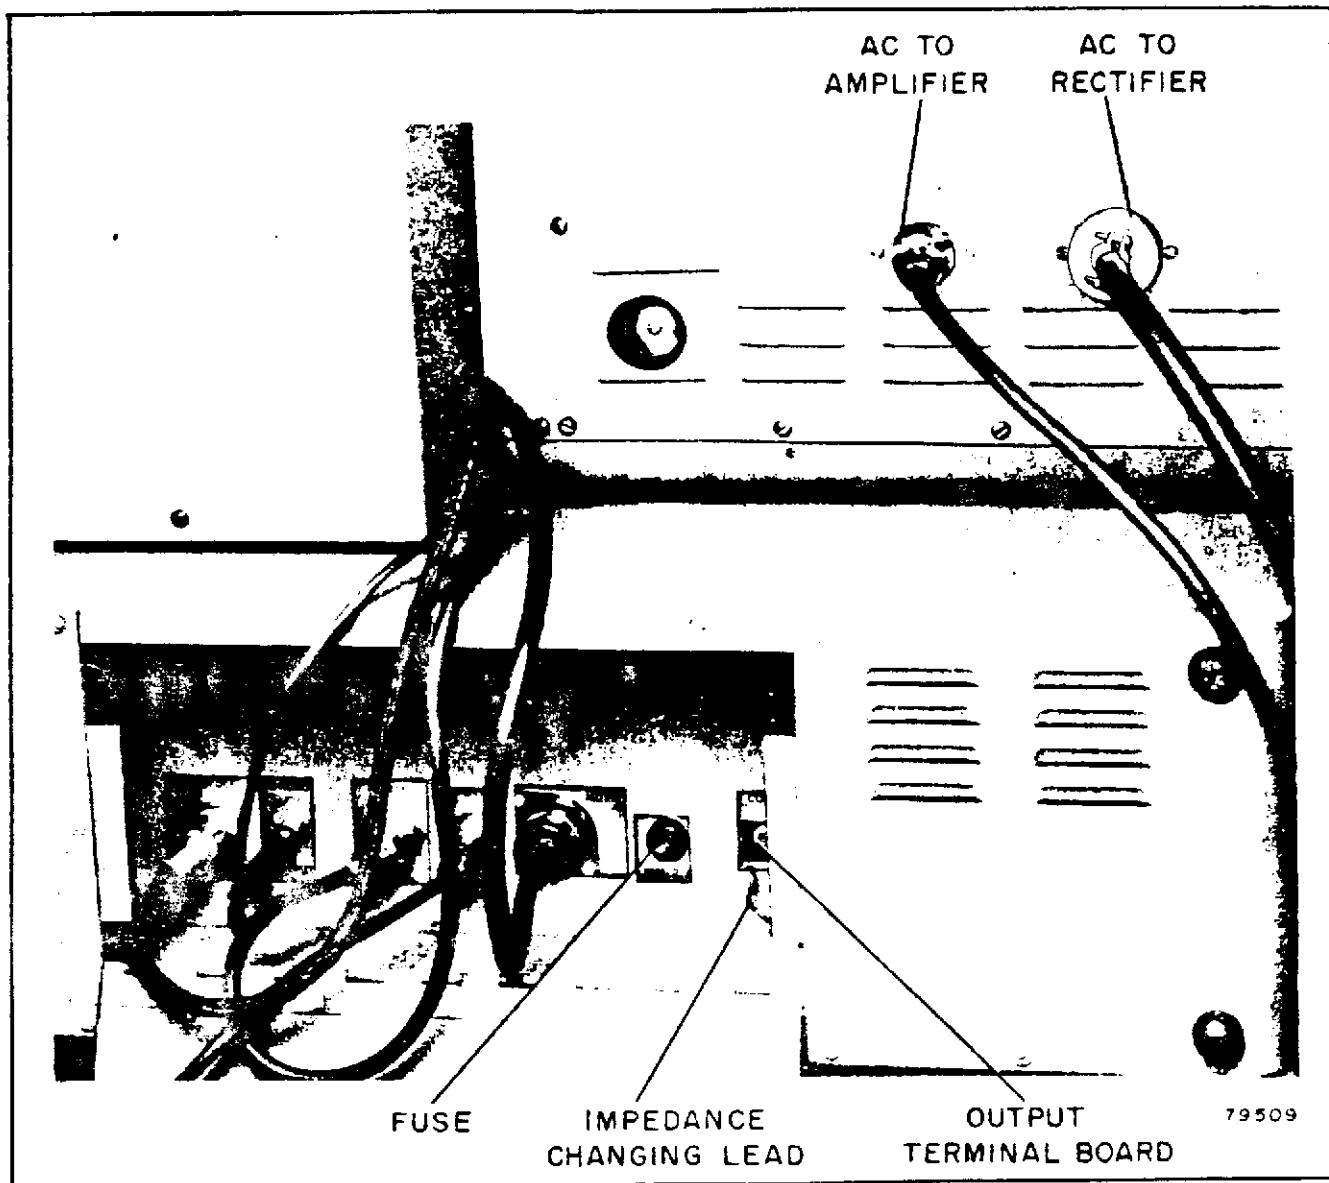
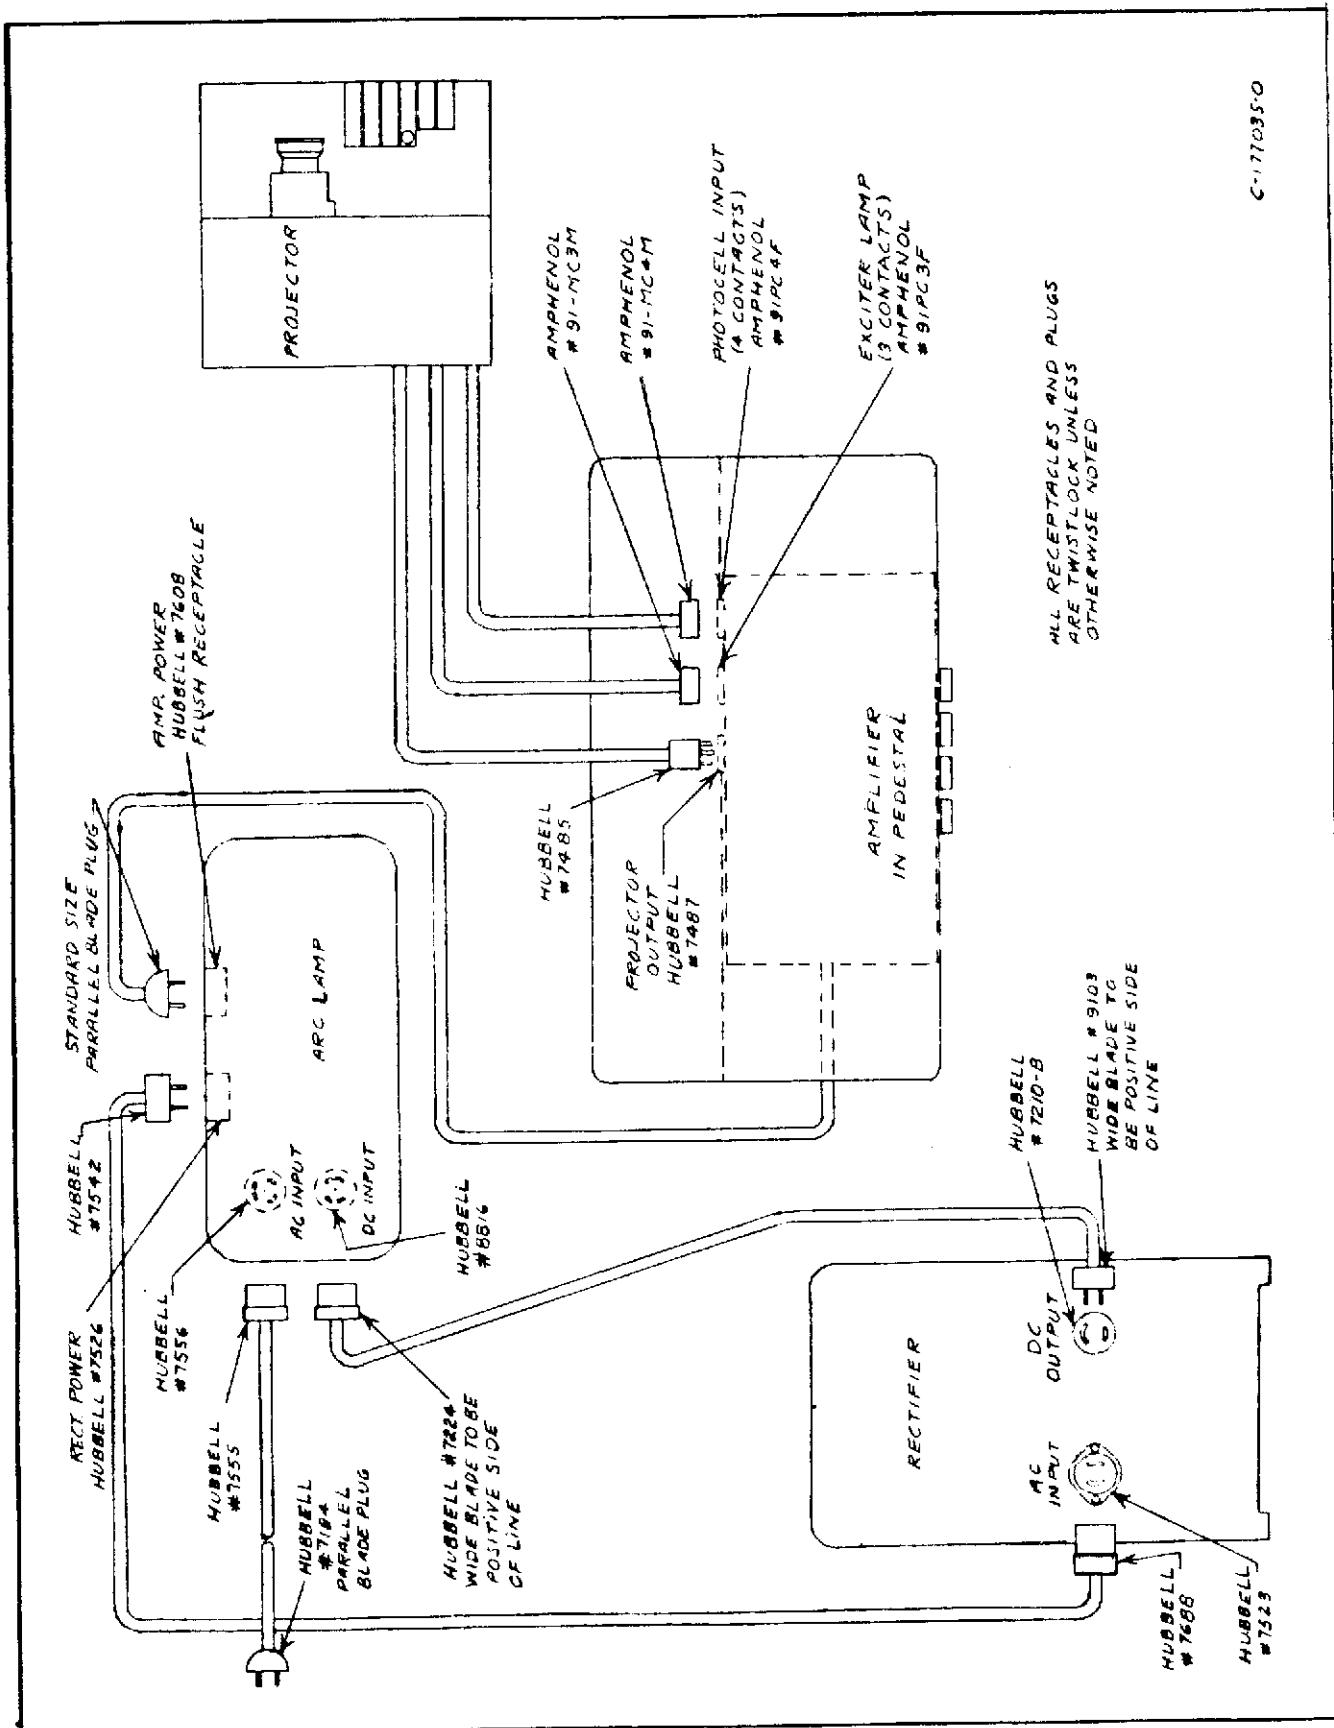

Figure 3 — View of Nonoperating Side of Amplifier with Cables Connected
Figure 4 — Interconnection Diagram
2. Unfold the elevating crank on the front of the amplifier case and turn it clockwise until the elevating pins protrude approximately one-half (1/2) inch above the top surface of the housing. This will facilitate locating the projector mechanism in proper engagement with the pins. Remove the front cover from the projector mechanism and set it in place so that the brackets on its lower front surface engage the elevating pins. Open the door in the amplifier carrying case, on the nonoperating side or on the side opposite the amplifier control panel, by turning the two locks with a coin; connect the plugs of the three connection cables from the projector mechanism to their mating receptacles within this compartment, see figure 3. The plugs and receptacles are arranged so that they cannot be incorrectly connected. The screw-type holding rings on the two shielded cable connectors should be screwed on with reasonable firmness to insure good electrical connection of the cable shields.
4. Withdraw the connecting cables from the pedestal-amplifier's rear storage compartment. They have been provided with suitable plugs to prevent incorrect connections. The longest cable having a twistlock female plug in one end and a parallel blade plug on the other is the main 117 volts ac power supply cable to the equipment. This should be connected by #12 wire or larger extension cable (or permanently installed wiring) to a circuit of the building wiring capable of supplying at least 15 amperes at 117 volts, 60 cycle, or 50 cycle. Consult the nameplate on the projector to determine the correct frequency. Fuses or breakers to protect the circuit must be of at least 15 ampere rating, slo-blow or timelag type. Refer to figures 4 and 5.
There are two sockets on the under side of the arc lamp at the rear end. Insert the female plug of the 117 volts ac power cable in its mating socket at the left (viewed from the rear end of the arc lamp). The large diameter cable having twist-lock plugs at each end is used to carry direct current from the rectifier to the arc lamp. Connect its female plug to the right hand socket underneath the arc lamp, and connect the male plug at the opposite end of the cable to its corresponding socket on the rectifier. The small diameter cable with plugs at each end is used to carry alternating current from the arc lamp to the rectifier. See figure 3. Connect the male plug on this cable to the socket on the nonoperating side of the arc lamp, and connect the female plug to its mating socket on the rectifier. To protect the operator, the alternating current for the rectifier is passed through door-operated mercury switches within the arc lamp so that the current is interrupted and the rectifier ceases to supply direct current as soon as the arc lamp door is opened. Refer to figure 4. Insert the parallel blade plug, which is attached to the permanently connected short cable coming from the amplifier, in the mating socket on the nonoperating side of the arc lamp.
5. The door on the nonoperating side of the pedestal-amplifier case provides access to the amplifier's output jack and terminal board, see figure 3. The sound output jack and the impedance changing screw terminals are in parallel to accommodate either permanent or portable speaker connections.
One end of each of the amplifier's output transformer secondaries (low and high impedance) is grounded and is also connected to the jack frame as well as to the "COM" terminal of the impedance changing terminal board, see figure 16. Three taps on the lower impedance secondary are connected to the next three terminals (left to right) on the impedance changing terminal board, providing output impedances of 4, 8 and 15 ohms. The higher impedance secondary provides a 500 ohm output circuit suitable for connection to certain types of stage loudspeaker equipment, and it is tapped at 164 ohms to provide a nominal "70 volt line" for feeding modern distributed speaker systems. The flexible lead associated with the impedance changing terminal board is used to select the desired output circuit, see figure 3.